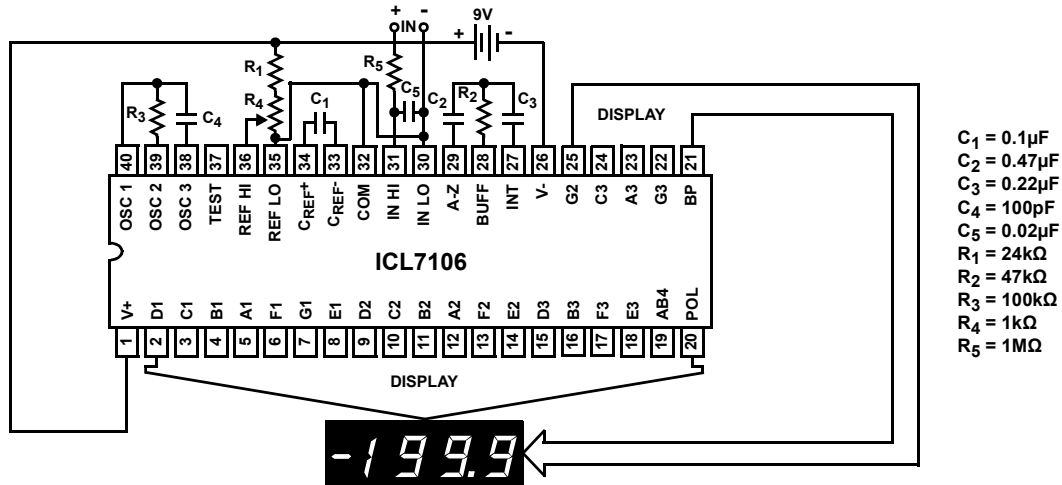
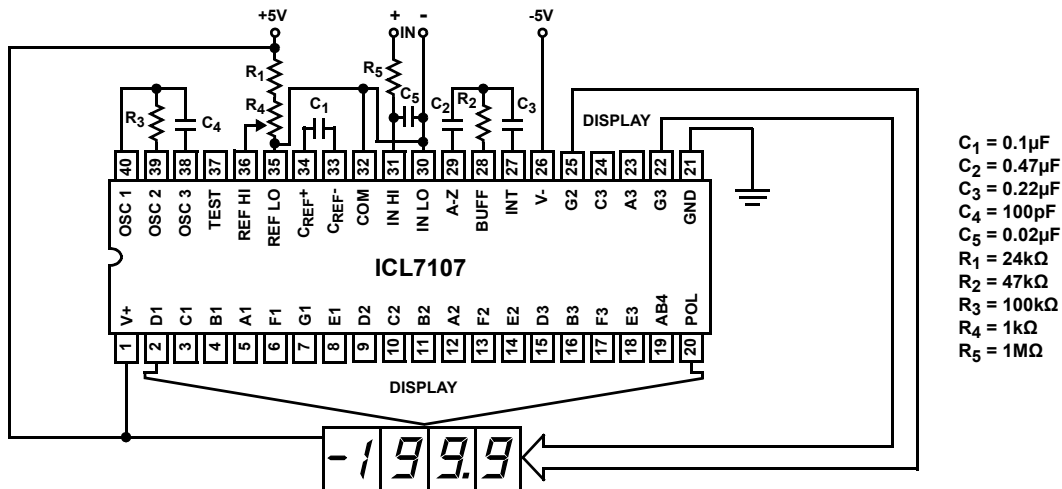

FIGURE 1. ICL7106 TEST CIRCUIT AND TYPICAL APPLICATION WITH LCD DISPLAY COMPONENTS SELECTED FOR 200mV FULL SCALE
FIGURE 2. ICL7107 TEST CIRCUIT AND TYPICAL APPLICATION WITH LED DISPLAY COMPONENTS SELECTED FOR 200mV FULL SCALE
8. Unless otherwise noted, specifications apply to both the ICL7106 and ICL7107 at $T_A = +25^\circ\text{C}$, $f_{\text{CLOCK}} = 48\text{kHz}$. ICL7106 is tested in the circuit of Figure 1. ICL7107 is tested in the circuit of Figure 2.